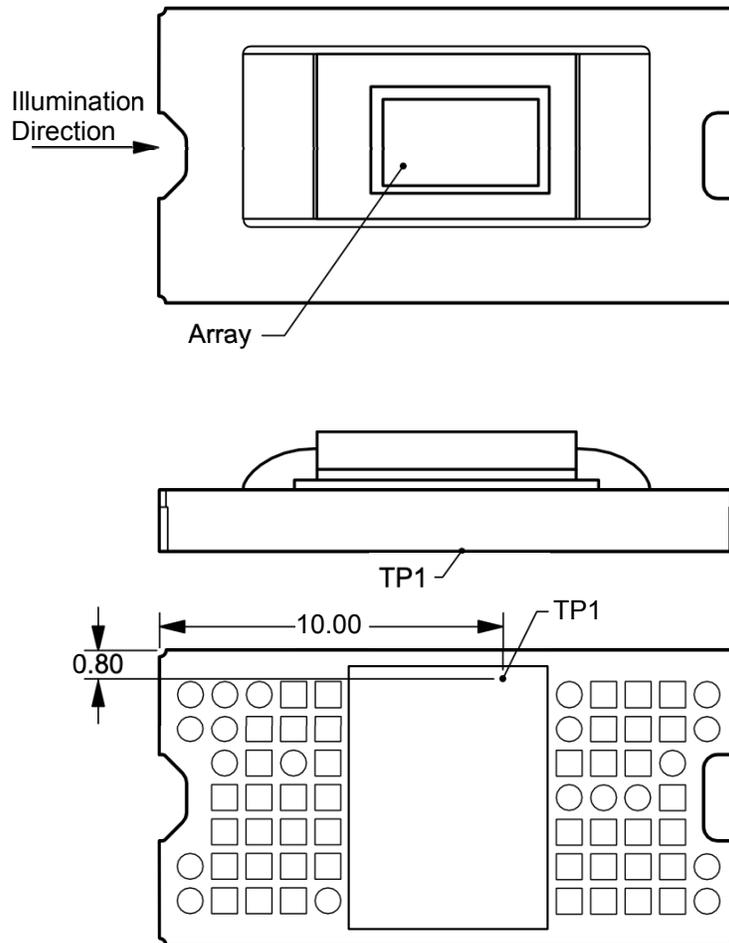

图 7-4. Thermocouple Location
Relationship between array temperature and the reference ceramic temperature (thermocouple location TP1 in 图 7-4) is provided by the following equations.
- T_{CERAMIC} = measured ceramic temperature (TP1 location in 图 7-4) (°C)